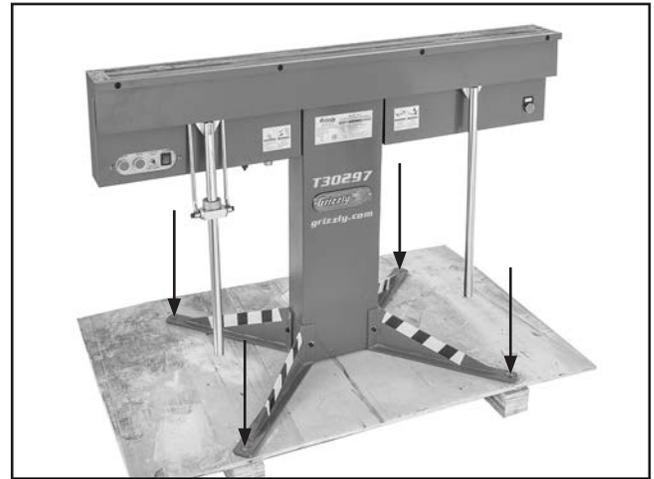

Figure 9. Location of lag bolts.
5. Remove (4) lag bolts and flat washers that secure machine to pallet (see **Figure 9**).